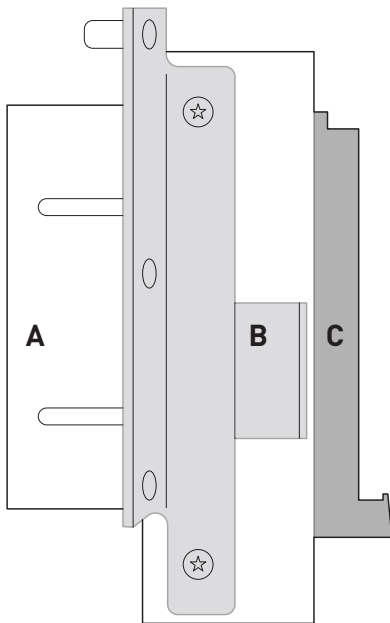

Fig. 2.0
2. Remove the mounting brackets from the OEM screen and attach them to MFT1 brackets (Example: Fig. 2.0).